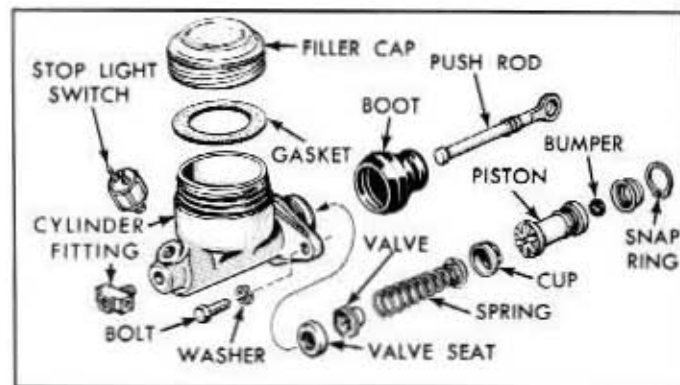

Fig. 2-7—Brake Master Cylinder—Disassembled—(60C-2007)
2. Remove the stop light switch and brake line fitting. See figure 2-7.